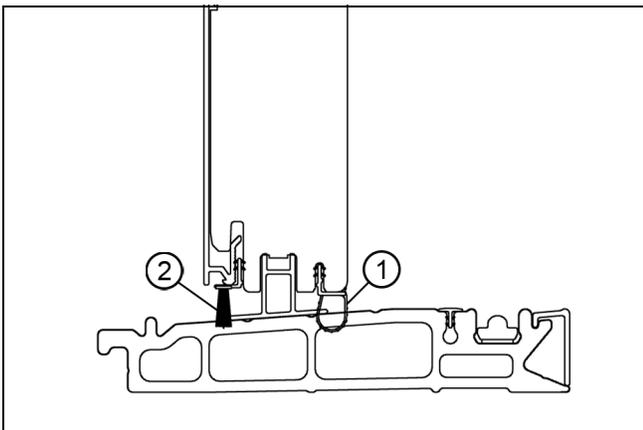

Figure 37
2. On exterior stationary panels, insert the barbed side of the bulb weatherstrip into the kerf on the interior side of the panel. On the exterior side of the panel, insert the barb on the pile weatherstrip into the kerf on the bottom of the panel. See Figure 37.